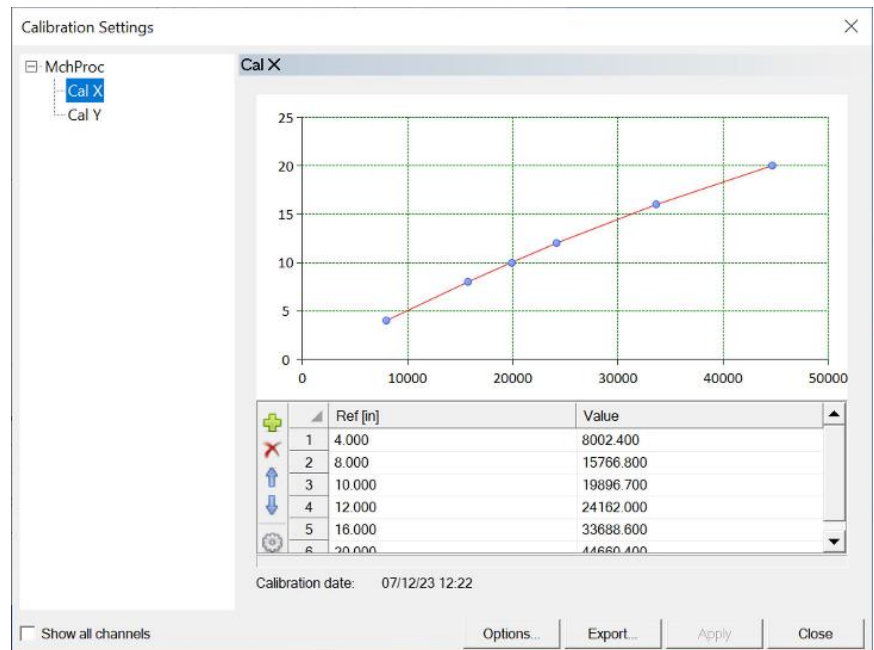

Figure 5-1.3 Calibration Settings
5. If correctly calibrated the points should form a nearly straight line on the graph (Figure 5-1.3).